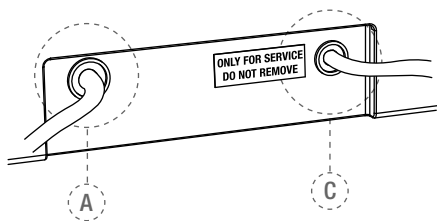

Fig. 2 Back of central unit
- b. Insert the connector of the battery charger in jack connector (A – see Fig. 2) at the back of the device (for details see chapter 7.3.3.).
- d. Plug the foot pedal cable into the jack, located on the back of the device (C – see Fig. 2).
**Flashing orange:** Battery charger is correctly connected to socket (A – see Fig. 2) at the back of the device and battery is charging.